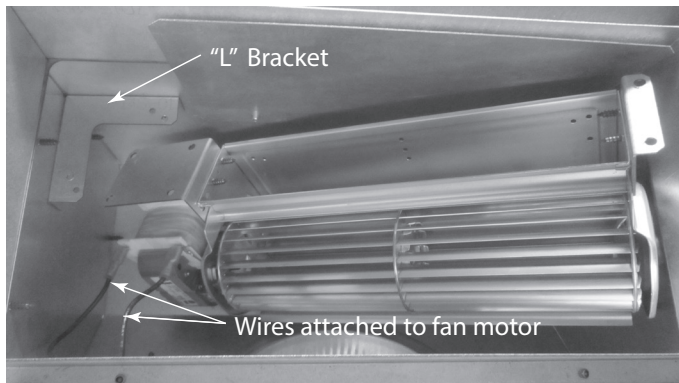

Figure 3.29
- Attach the (2) wires to the spade terminals on the motor.
- Insert fan into the fan housing starting with motor end first. Slip it below the "L" mounting bracket on the left side allowing the right side to drop in. See Figure 3.29.